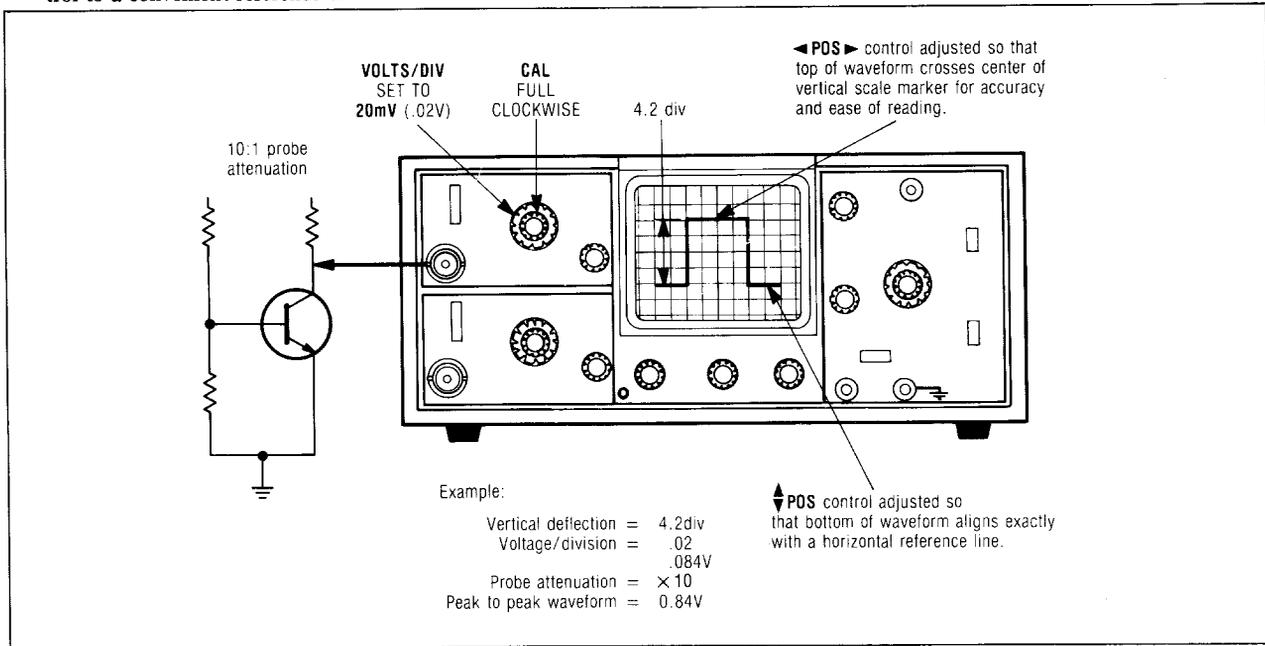

Figure 7. Voltage Measurement.
(See Fig. 7)
2. Be sure the sweep time VARIABLE control (22) is fully clockwise to the CAL position.
3. Set the SWEEP TIME/DIV control (21) for the largest possible display of the waveform segment to be measured, usually one cycle.
4. If necessary, readjust the TRIG LEVEL control (24) for the most stable display.
5. Read the amount of horizontal deflection (in divisions) between the points of measurement. The ◀POS▶ control (25) may be readjusted to align one of the measurement points with a vertical scale marker for easier reading.
6. Calculate the time duration as follows: Multiply the horizontal deflection (in divisions) by the SWEEP TIME/DIV switch (21) setting (see example in Fig. 7). Remember, when the 10X magnification is used, the result must be divided by 10 to obtain the actual time duration.
- a. Set the SOURCE switch (19) to the EXT position.
- b. Connect a cable from the EXT TRIG jack (18) to the source of sync signal. Use a short shielded cable. The external sync signal should be at least 1 volt peak-to-peak. Maximum input voltage is 50 volts peak-to-peak or 24 volts dc + ac peak. A higher input voltage may damage the scope.
- c. Set the SLOPE switch (20) to the (+) or (-) position for the proper polarity for the sync signal.